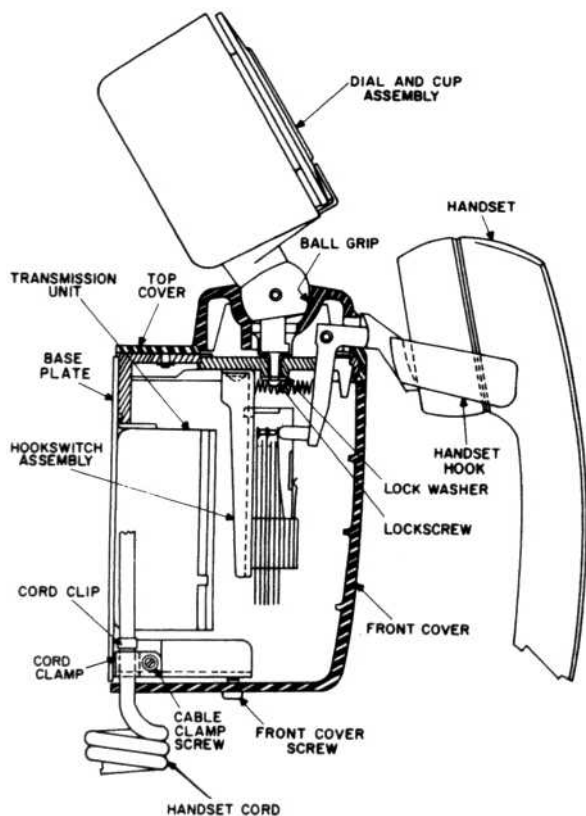

Figure 2. Self-Compensating Type 183 Telephone - Cross Section.
2.02 After the front cover has been removed, but before the telephone has been mounted, the dial assembly and handset hook must be secured in the position required for that particular installation. The final position of the dial assembly and handset hook must be the position most convenient for their use at the telephone location. The dial assembly can be rotated 360° when the Phillips-head lock screw beneath the dial assembly ball grip (Figure 2) is loosened. Tightening the lock screw secures
- (2) Loosen the Phillips-head lockscrew (Figure 2) sufficiently for the circular die-cast plate (on which the hookswitch is mounted) to be moved downward approximately 1/8-inch.
- (3) Turn the assembly to the left (facing the telephone set) until the handset hook is at a position where further turning is not possible. The circular plate will now be in a position where all of its slots mesh with similar size projections along the edge of the rigid die-cast structure.